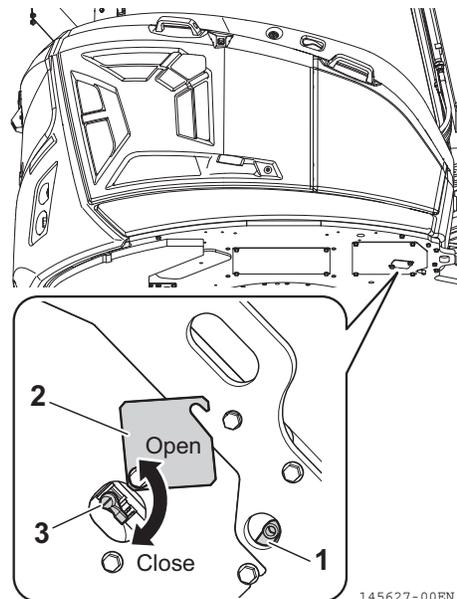

Fig. 8-44
1. Swing the upperstructure so that the drain hose (**Fig. 8-44, 1**) under the fuel tank is positioned in the middle of the right and left crawlers.
2. Loosen the bolts to move the cover (**Fig. 8-44, 2**) in the direction of an arrow.
3. Put the container for fuel waste under the hose (**Fig. 8-44, 1**) for the drain cock.
4. Open the drain cock (**Fig. 8-44, 3**) to discharge the water and dirt deposits in the fuel tank from the drain hose (**Fig. 8-44, 1**). Take care that the fuel does not contact your body.
5. After clean fuel flows out, set the drain cock (**Fig. 8-44, 3**) to the close position, return the cover (**Fig. 8-44, 2**) and tighten the bolt.